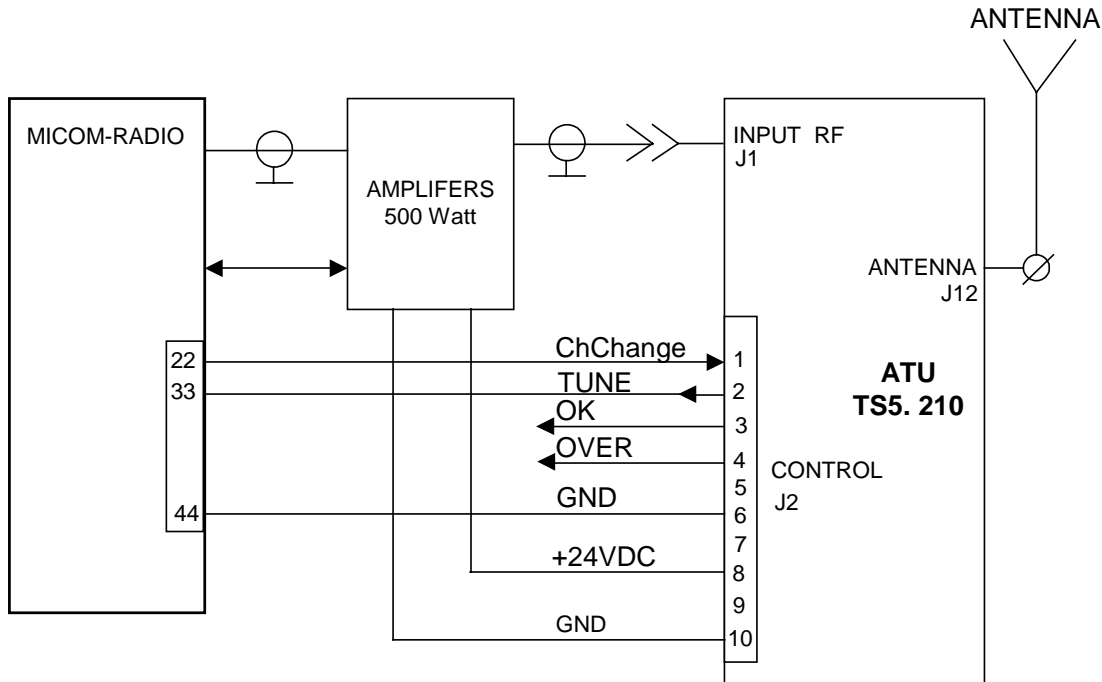

Figure 2-1. AC500, PA-500 and MICOM Radio Interconnection
The interconnection between AC500, amplifier PA-500 and MICOM Radio are illustrated in Figure 2-1.
Step 8. Connect the RF coaxial cable to the ATU's INPUT RF connector and to the Power Amplifier output (see Figure 2-1).
When the system installation is completed, perform the following operational check (see Figure 2-1):